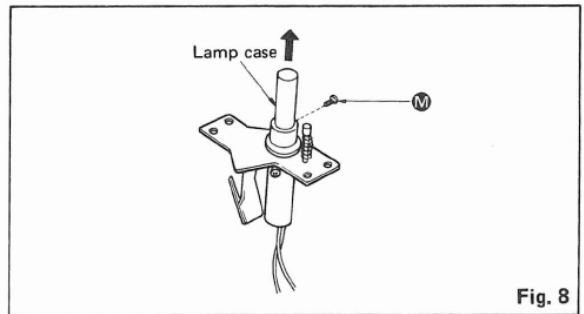

Fig. 8
16. Remove 1 screw **M** as shown in fig. 8.